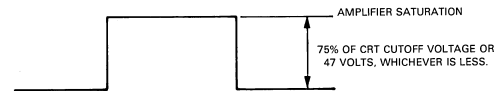

Figure 5-5. Z-axis Gain and Offset Adjustment
- Adjust Z-axis offset (A5R19) such that the positive position of the pulse is just equal to the maximum Z-axis output, maintaining the same peak-to-peak amplitude obtained in step h (see figure 5-5).